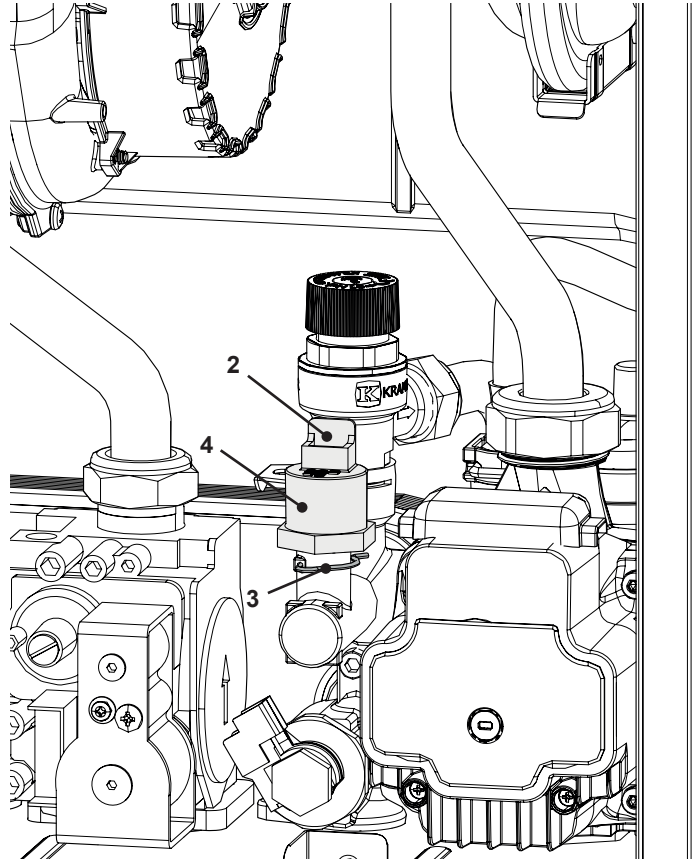

Figure 12.2
- 2 Remove the fixing spring "3" (Figure 12.2) and remove the primary circuit pressure switch "4".
- 3 Disconnect the connector "2" (Figure 12.2).